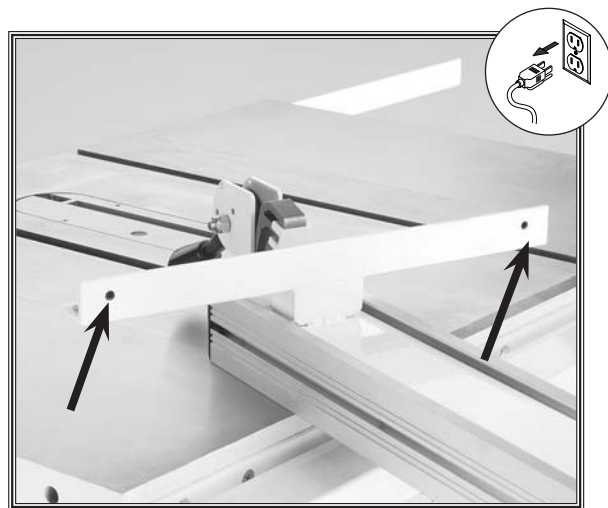

Figure 40. Fence adjustment setscrews.
3. Unlock the fence and turn it over to access the setscrews in the front face shown in **Figure 40**.